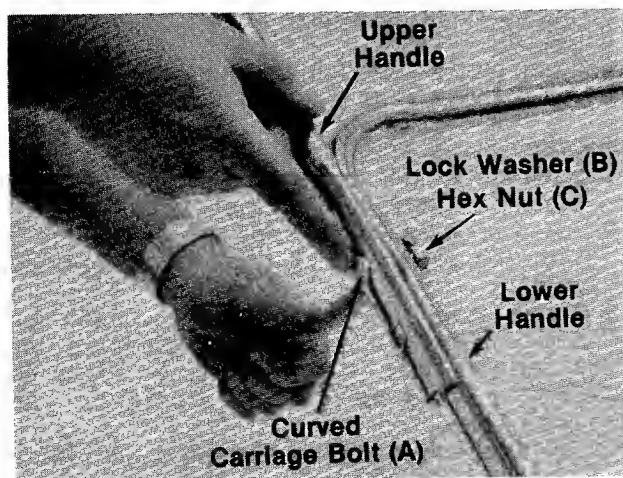
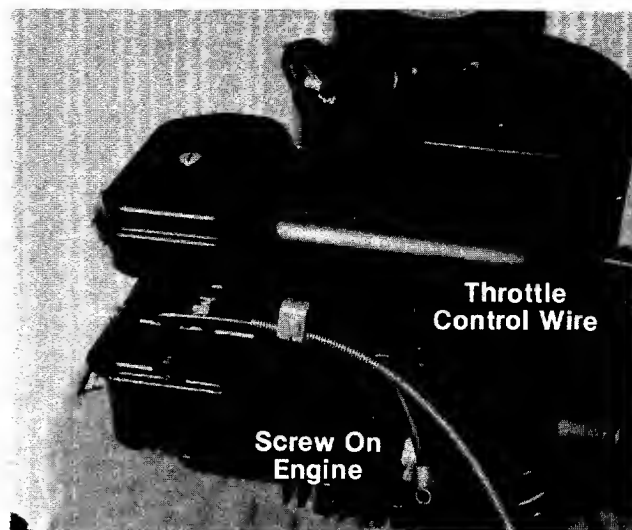

FIGURE 3.
**FIGURE 9.**
- ← 4. There are two height positions for the handle. Place upper handle in position over lower handle, selecting hole for either high or low position. See figure 9. Secure with two curved head bolts (A), lock washers (B) and hex nuts (C) as shown in figure 3. Tighten securely using a 1/2" wrench.
The upper handle can be adjusted to a high or low position. The adjustment is made by removing the hex nuts, lock washers and curved head bolts and reassembling in the other position. A ½" wrench is required. See figure 9.